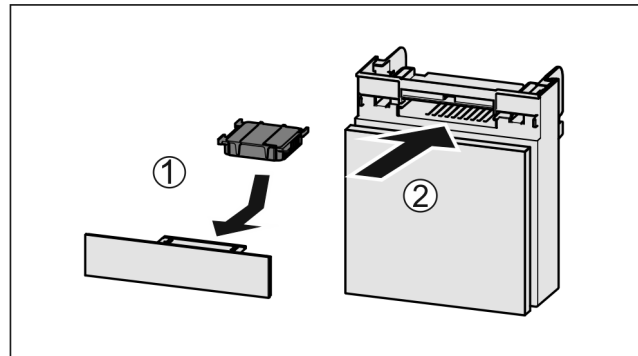

Fig. 85
- ▶ Insert the carbon filter as shown in the diagram Fig. 85 (1).
- ▶ Push the compartment in Fig. 85 (2).